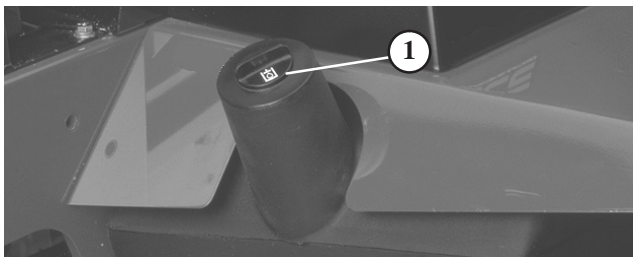

Figure 19
2. Clean area around filler neck and cap of hydraulic tank (Fig. 19). Remove cap from filler neck.